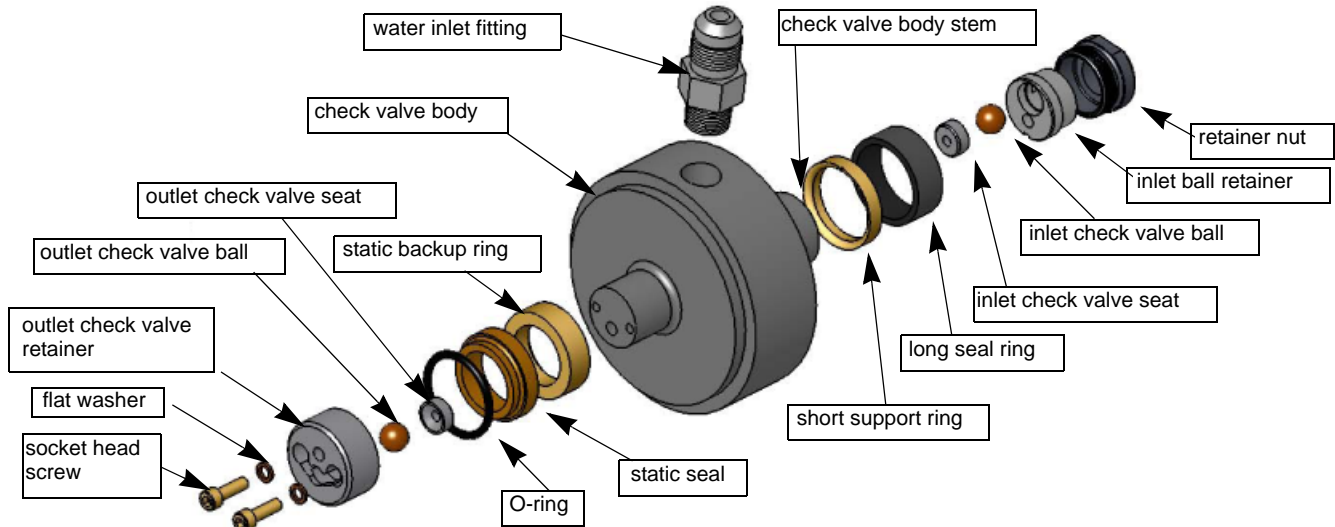
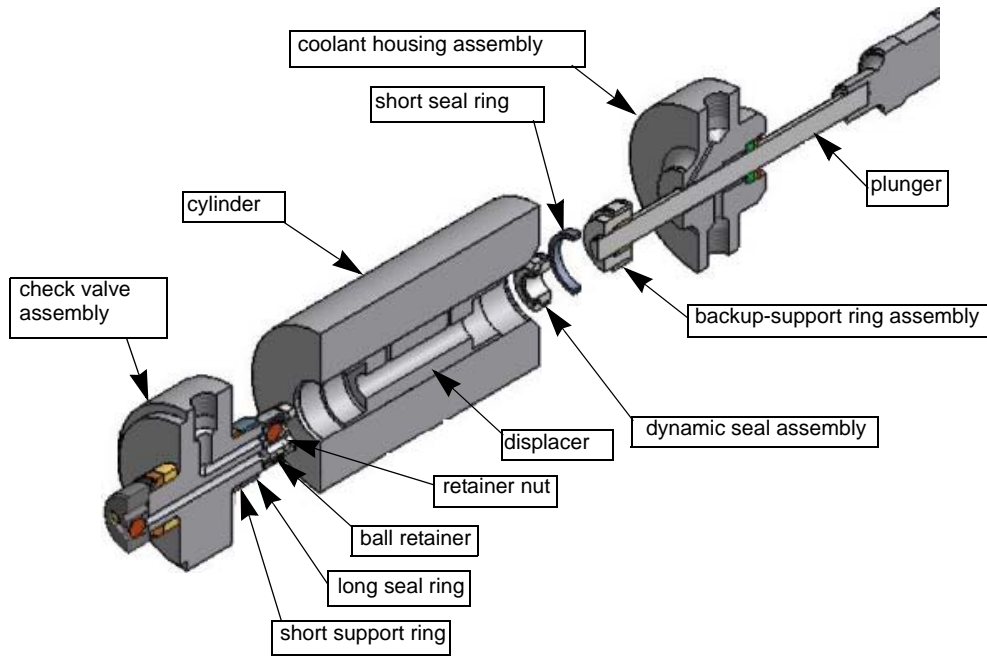

Figure 5-23: Check Valve Assembly Components
Figure 5-32: High-pressure Wet End Assembly Components
1. Apply a light coat of Lubriplate (#201304) to the interior of the holes on the pressure Manifold (Figure 5-1) and to the Check Valve Body (Figure 5-23) outlet side O-ring and Static Seal.
3. Place the Displacer over the Inlet Check Valve Retainer (Figure 5-23) until it contacts the Long Seal Ring (Figure 5-32). Repeat this for all three Check Valve Assemblies.